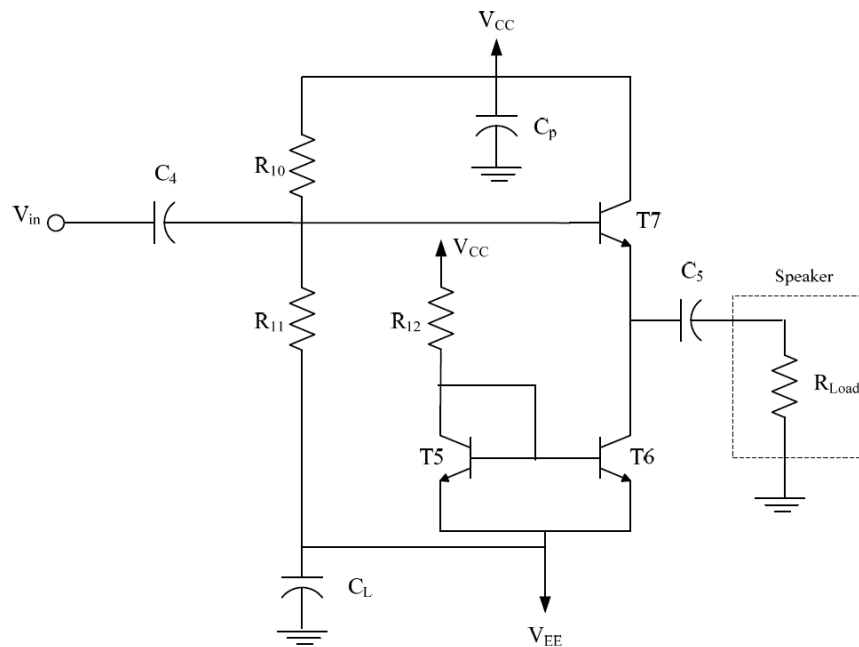

Figure 5 - Class A output stage
1. Build the circuit shown in *figure 5*. Plot the input and output signals.